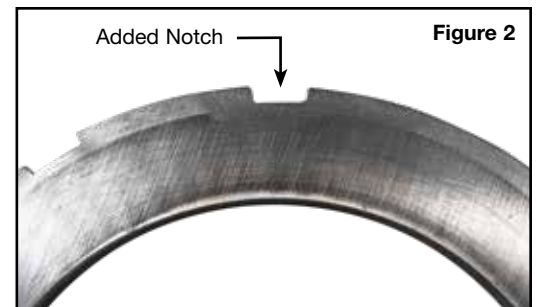

Figure 2
### 2. Modify Backing Plate with Additional Notch (Figure 2)
- g. Use a file to clean up the notch. Recheck with steel plate, filing as necessary (Figure 2).